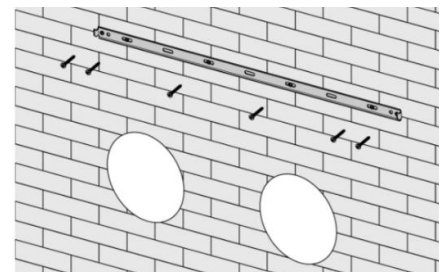

Figure 4
3. Drill the marked holes using a $\frac{5}{16}$ " drill bit and insert wall plugs. Secure the wall bracket into position using the screws provided. Use anchors if needed to hold 85 lbs. so there is no risk of the unit tipping or falling. Figure 4